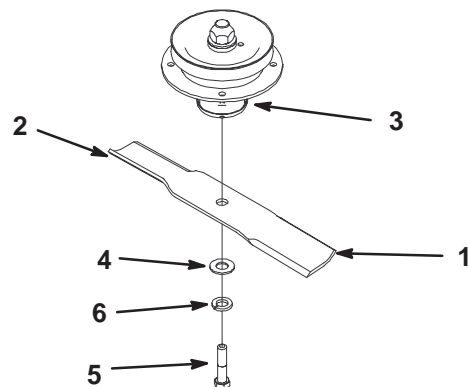
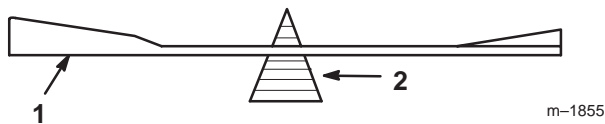

Figure 44
Figure 46
1. Hold the blade end using a rag or thickly-padded glove. Remove the blade bolt, washer, lock washer and blade from the spindle shaft (Fig. 44).
2. Check the balance of the blade by putting it on a blade balancer (Fig. 46). If the blade stays in a horizontal position, the blade is balanced and can be used. If the blade is not balanced, file some metal off the end of the sail area only (Fig. 44). Repeat this procedure until the blade is balanced.
1. Install the blade onto the spindle shaft (Fig. 44).
Important The sail part of the blade must be pointing upward, toward the inside of the mower to ensure proper cutting (Fig. 44).
2. Install the washer, lock washer and blade bolt (Fig. 44). Torque the blade bolt to 85–110 ft-lb (115–140 N•m).